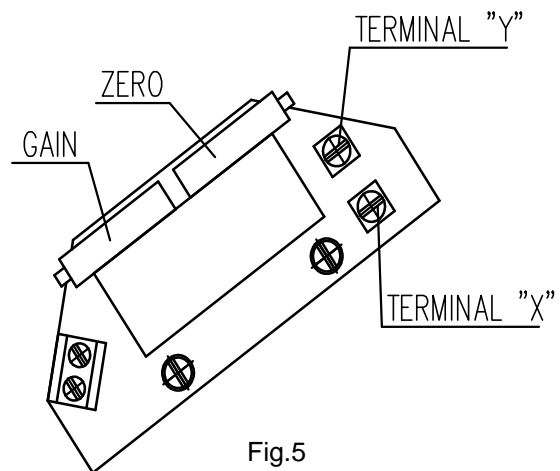

Fig.5
##### 4.4.1 EPV – the 2-wire version (Fig. 5,5a)
- Adjust the resistive transmitter according to the previous chapter. The resistance is to be metered on the terminals X-Y, resp. R-R (Fig. 5,5a). The used transmitter resistance is 100  $\Omega$ .